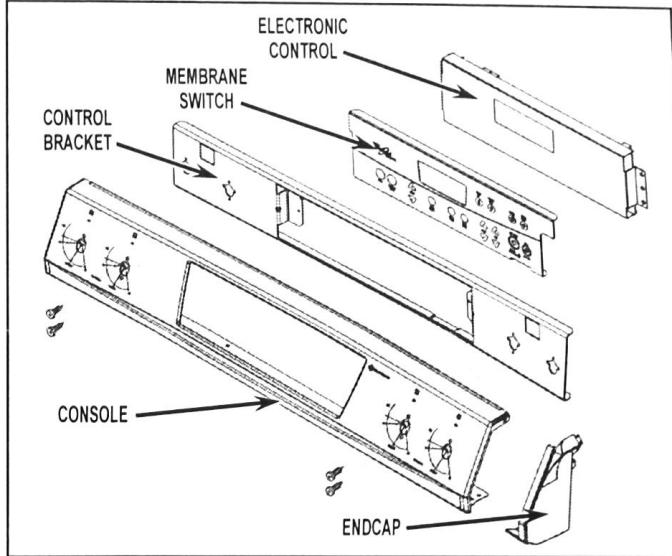

Figure 1
5. Open oven door and remove (4) screws from underside of console.
9. Remove (2) electronic control mounting screws and set control aside.
10. Remove (4) screws that secure control bracket to console. Save these screws for later.
12. Assemble new control bracket to new console reusing (4) screws from step 10. Use top and bottom screw holes at inner most gas valve openings. See *Figure 1*.
14. Replace electronic control on control bracket and secure with (2) screws.